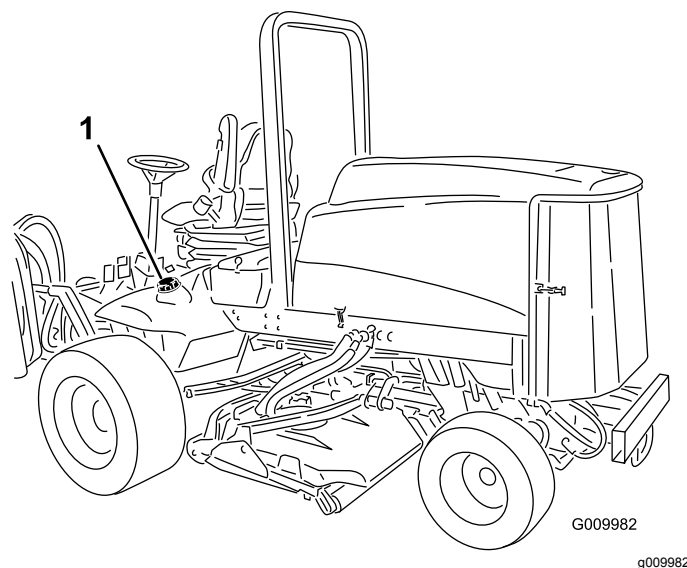

Figure 21
1. Remove the fuel-tank cap (Figure 21).